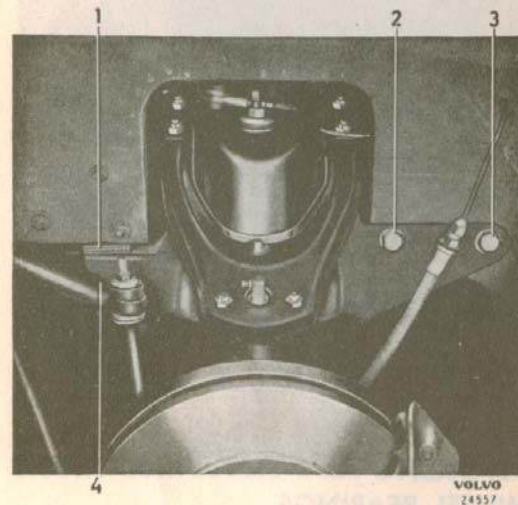

Fig. 6-5. Front axle attachment
8. Place a jack under the front axle member. Unscrew the front axle member attaching bolts (2, 3 and 4, Fig. 6-5). Preserve the shims (1).
2. Raise the jack so that the member comes into the correct position. Place shims in between and tighten the bolts (2, 3 and 4, Fig. 6-5) properly.